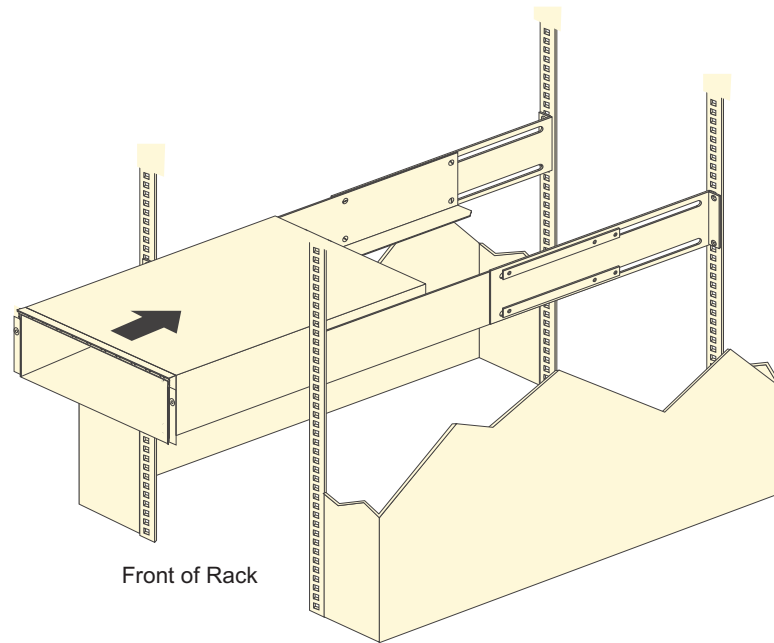

Figure 19. Installing the DS5020
- b. With help from another person, place the back of the storage subsystem on the support rails, and then slide the unit into the rack as shown in Figure 19 on page 41.